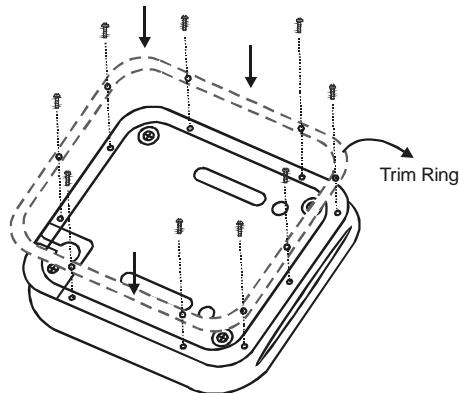

Figure 1
- 1) The trim ring is attached to the video monitor using the perimeter screw bosses. It is important that the screws used in this installation are not overtightened, and that the video monitor and trim ring are mounted in such a way that the assembly does not distort (or bend) when the mounting screws are tightened. The trim ring MUST be screwed to the unit. (Refer figure 1)